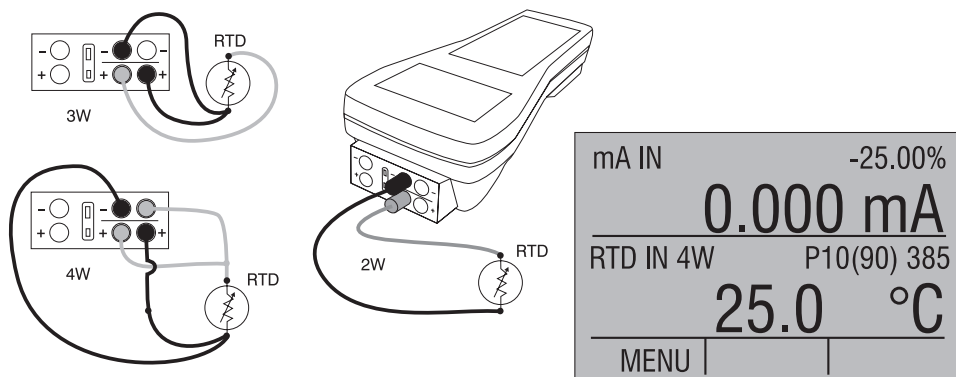

Figure 8. Measuring Temperature with RTD Connection
5. Attach RTD leads as shown in Figure 8.